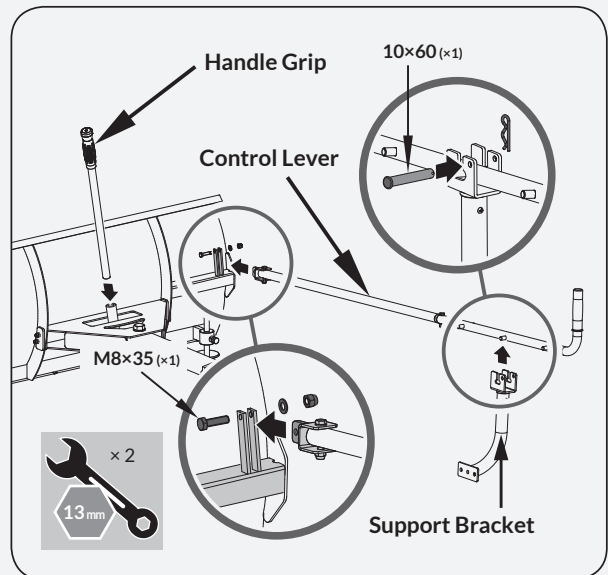

Figure 1d
6. Secure the support bracket into the control lever with pin 10×60 and bridge clip. (See **Figure 1d**)